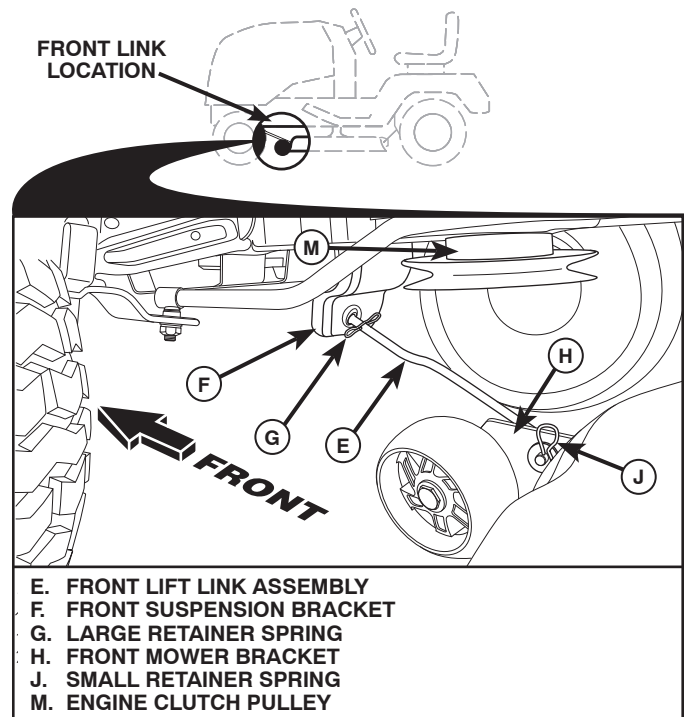

Fig. 13
8 ATTACH FRONT LINK (E) (See Fig. 13)
- From front of tractor, insert rod end of front link (E) through front hole in tractor front suspension bracket (F).
- Move to left side of mower and and insert large retainer spring (G) through hole in front link (E) behind front suspension bracket (F).
- Insert other end of link (E) into hole in front mower bracket (H) and secure with washer and small retainer spring (J).